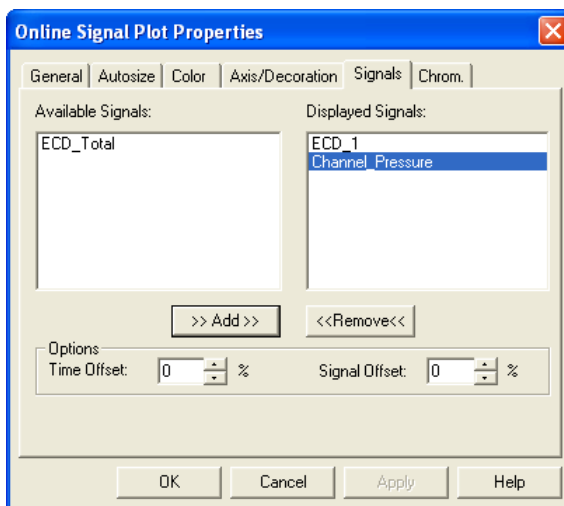

Figure 100. Online Signal Plot Properties
- c. Under **Available Signals**, select **Channel_Pressure** and click **Add >>** to move the signal to the **Displayed Signals** list (see Figure 100). Click **OK**.